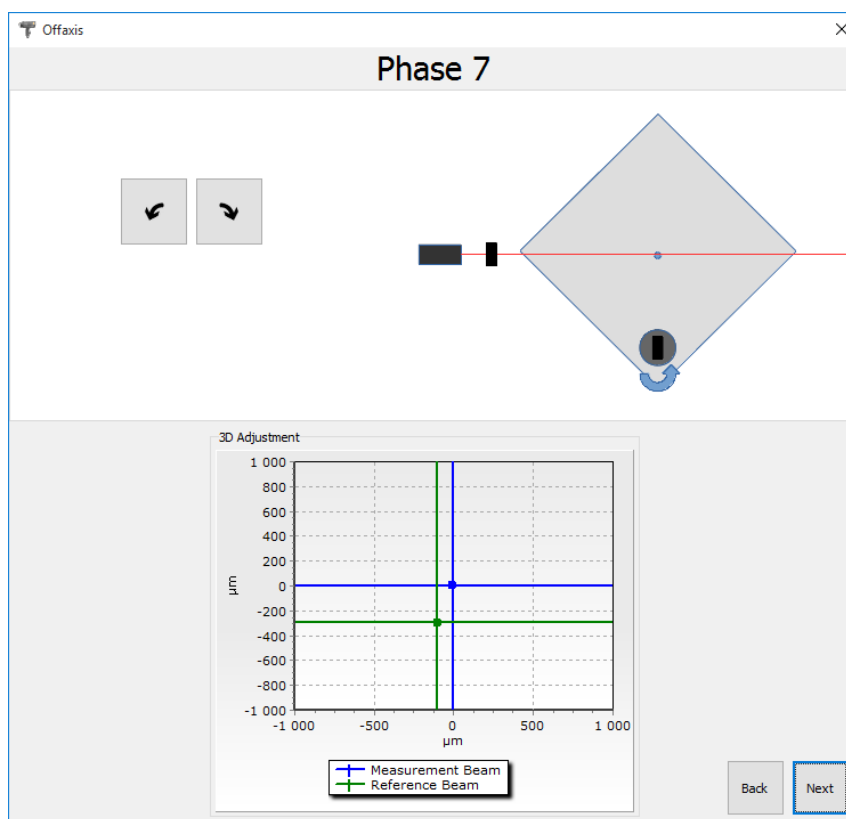

FIG.14.23. PHASE 7 OF THE OFF-AXIS PATH GENERATION
- 7) **Phase 7** – Wally is to be rotated in the same direction like the machine, i.e. by -90 degrees – see figure 14.23.